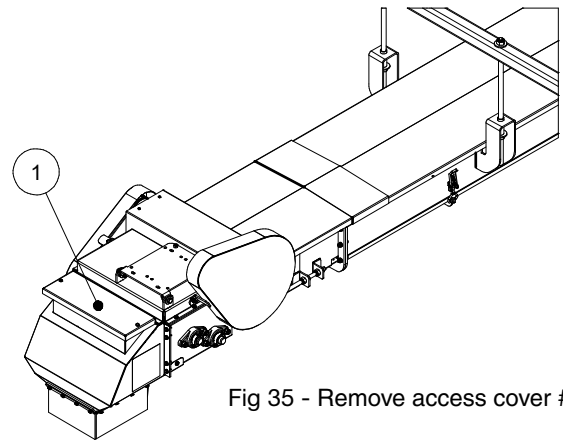
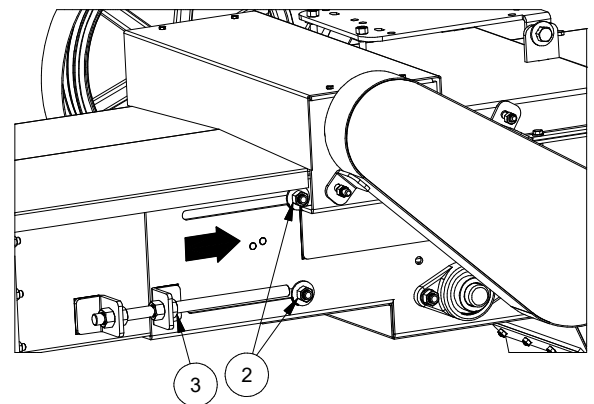

Fig 35 - Remove access cover #1
Fig 36 - Lock nuts
7. Open the access cover on both ends of the conveyor. See Figure 35
8. Loosening the lock nuts (2). See Figure 36
9. Tighten or loosen lock nut on the adjustment bolt (3) to move the roller.
10. Once the belt is tracking in the centre of the rollers, tighten the lock nuts (2).
12. Reinstall access covers (1). See figure 35